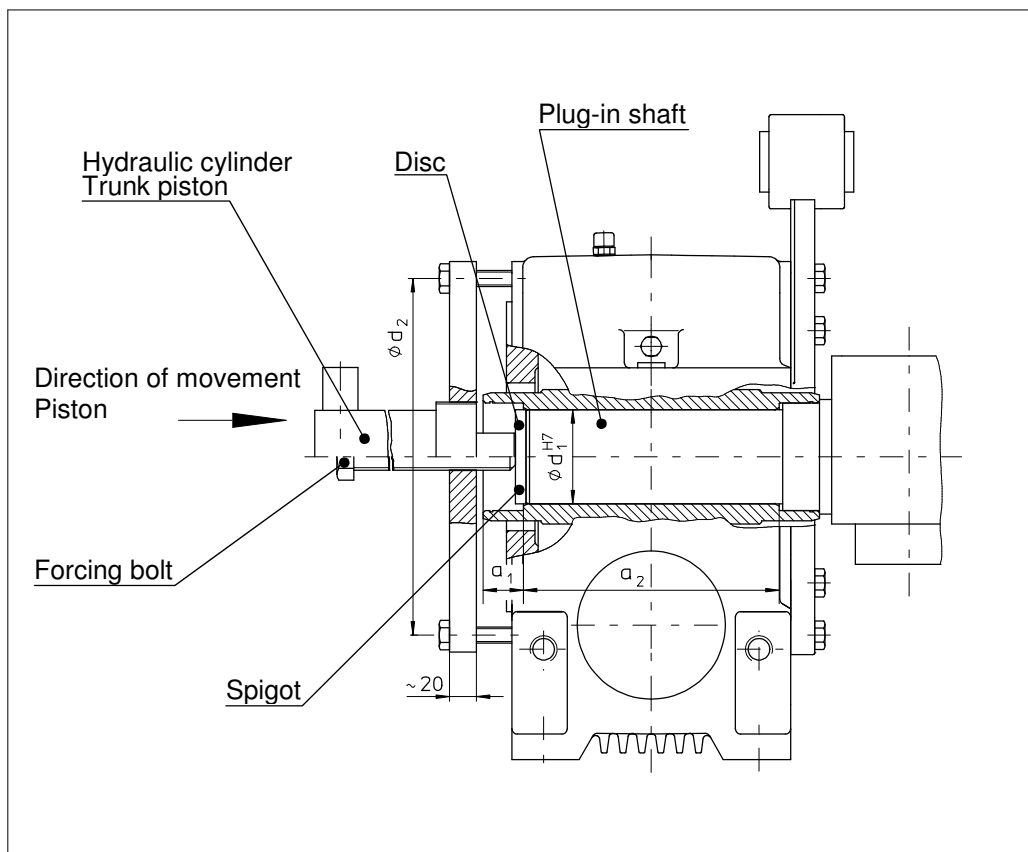

Figure 9
- Version 2: Use grease forcing bolt or a hydraulic cylinder (10t) for elevator gear units sizes SSMVD 125 ... 250 and SSTKVD150, refer to figure 9.